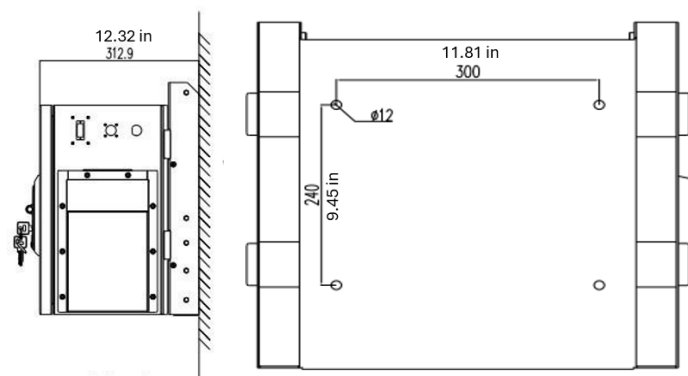

Figure 5.8 Micro Dispenser Mounted on Wall
- Drill holes into the wall based on the dimensions of the bracket shown in figure 5.8. Secure the bracket onto the wall with four M10\*60 bolts and torque them down to the specified value.